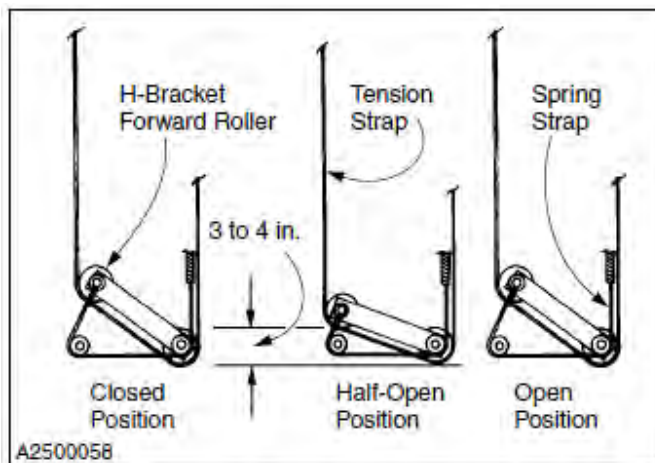

Figure 32
2. Check the position of the H-bracket forward roller in each side column. They should both be 3 to 4 in. above the side column base plate. (See Figure 32.)
3. Run the door through a complete cycle. Check the position of the H-brackets when the door reaches the full-open and -closed positions. If either H-bracket is not as shown in Figure 32, adjust the tension strap. (See "TENSION STRAP ADJUSTMENT" on page 24.)